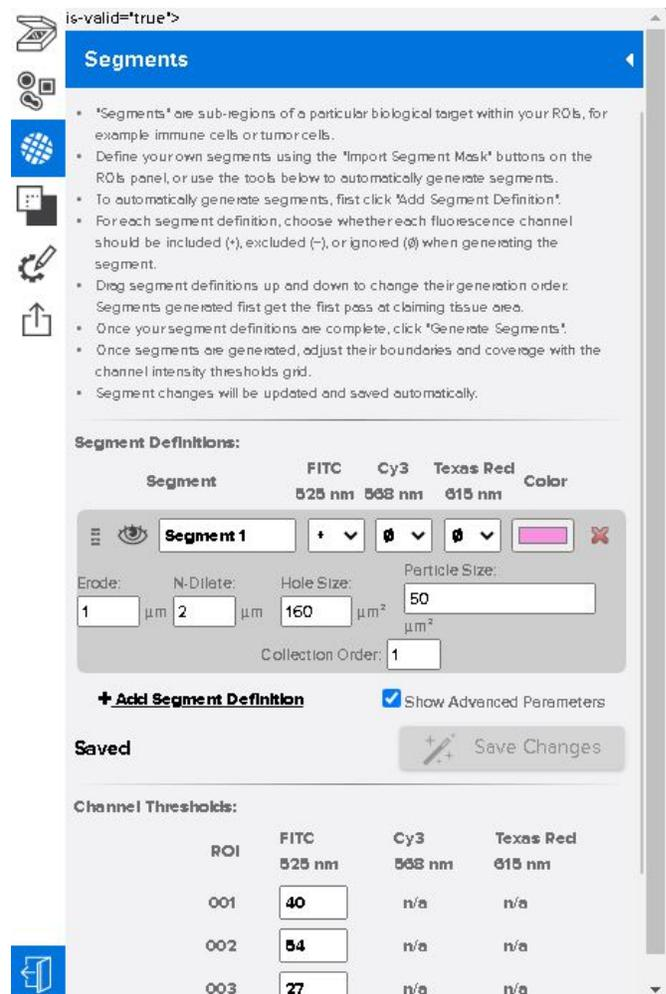

Figure 42: Segment definitions with channel thresholds
8. After your first autosegmentation, a **Channel Thresholds** grid will appear below your segment definitions, allowing you adjust your segments manually for each ROI. Adjust the values in the **Channel Thresholds** grid, as needed, to change the sensitivity to each channel you've chosen to assess (the channel designation set to +) (Figure 42).